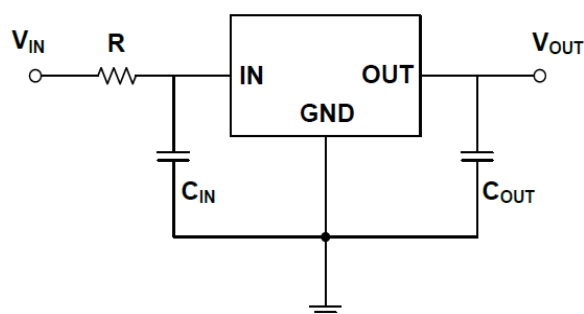

Figure 2. Resistance is used at IN
2. Place a resistor with appropriate resistance in series before the IN of the voltage regulator, which can help the voltage regulator share part of the energy in case of surge. The resistance value of the resistance should not be too large. The specific resistance value depends on the application of the circuit. Generally, the resistance value of this resistance does not exceed 20Ω. As shown in Figure 2.
For the MLS78M series, it is recommended that the input voltage should not exceed 17V and the peak voltage should not exceed 35V. **When the input voltage is greater than 17V, or the peak voltage that may be greater than 35V may appear in the practical circuit, it is recommended to adopt the circuit layout shown in Figure 2 in the circuit design.**
The MLS78M series can obtain better transient response with the help of output capacitance. However, if the output capacitor is relatively large, the surge current generated by the charging of the output capacitor will also be large at the moment of power on of the regulator, and the large surge current passing through the regulator may damage the internal circuit. When the output capacitance is large, adopting the circuit design shown in Figure 2 will reduce the possibility of damage to the device due to large surge current to a certain extent. It is recommended that the selection of output capacitor should not exceed 20 μ F. If the selection of output capacitor exceeds 20 μ F, it is recommended to adopt the circuit design in Figure 2 to reduce the possibility of accidental failure of the device due to large surge current during power on.
It is recommended that the output capacitor (C_{OUT}) should not exceed 20 μ F. When the output capacitor (C_{OUT}) exceeds 20 μ F, it is recommended to use the circuit layout shown in Figure 2. See Large Output Capacitance for more details.